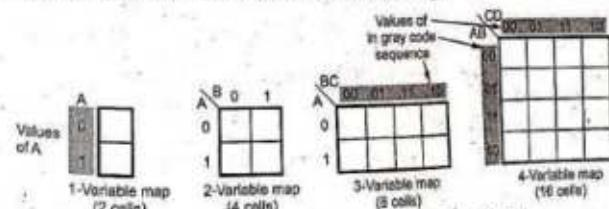

Fig. 4.2.1 Outlines of 1, 2, 3 and 4-variable Karnaugh maps
- Fig. 4.2.1 shows outlines of 1, 2, 3 and 4-variable maps.